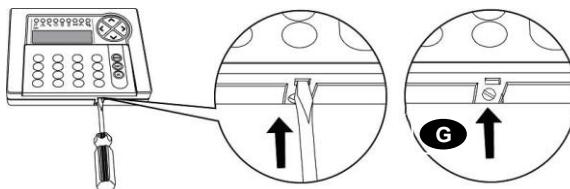

Fig. 1
Use a slotted screwdriver to open the keypad by gently pressing the point indicated in the image in order to disengage the closure spur (Fig. 1).
- Close the keypad using the screw provided (**G** - Fig. 1).